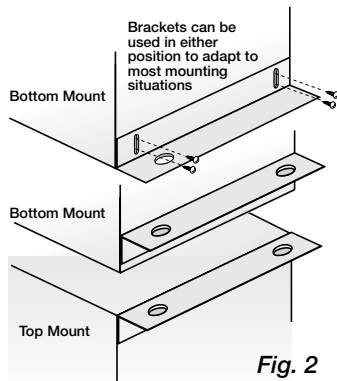

Fig. 2
- Attach adjustable mounting brackets to fan, but leave the screws loose until proper height is determined, shown in Fig. 2. Cut hole to dimensions shown in table below: